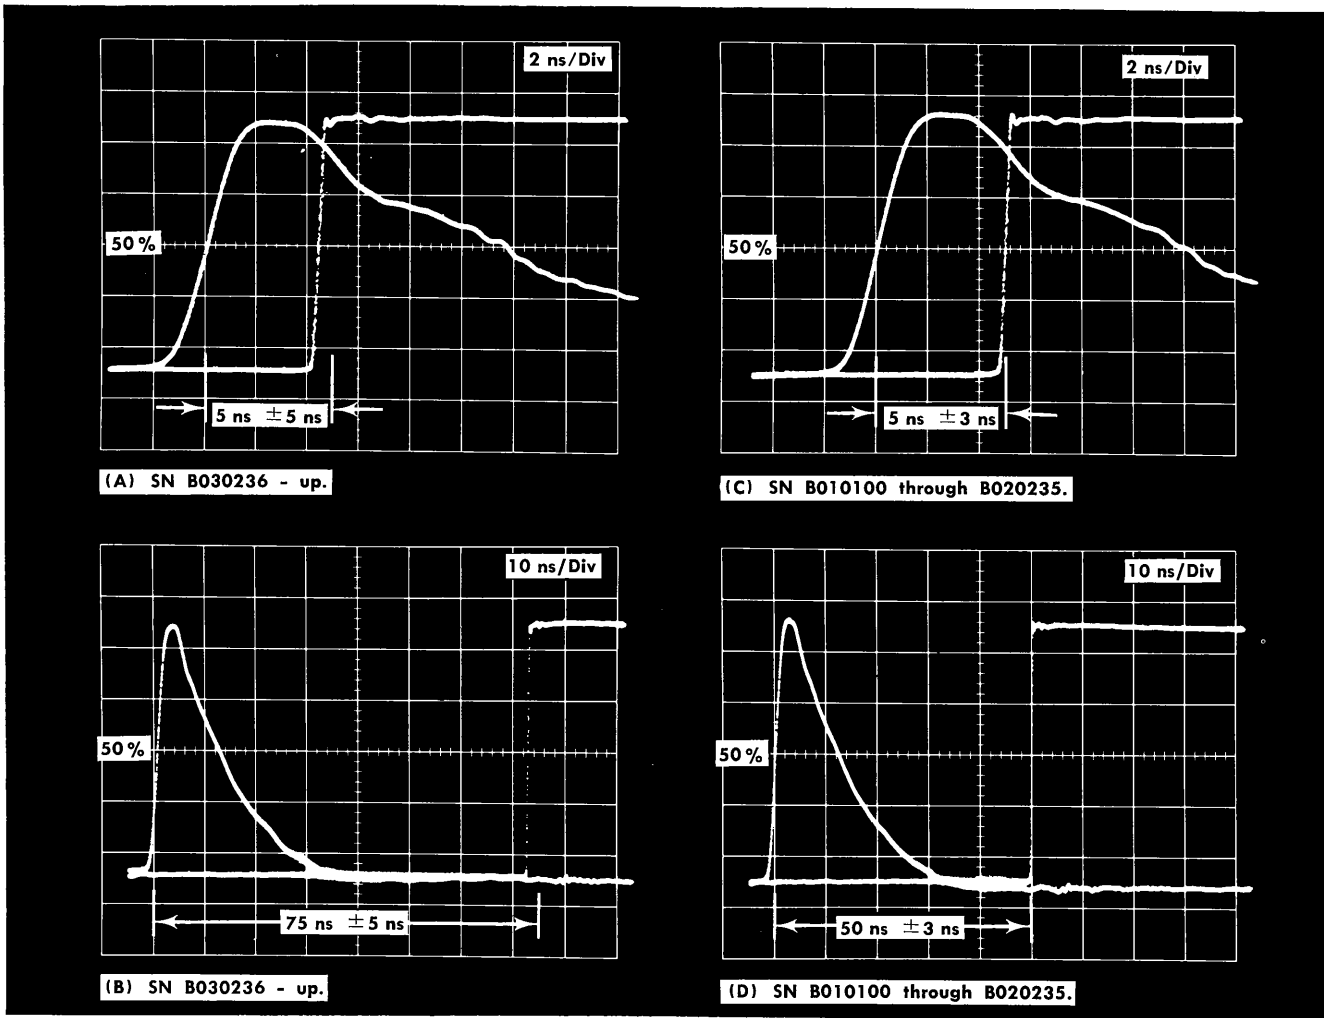

Fig. 6-27. Display when checking Lead Time tolerances.
16. Adjust Bias Balance, R123 ①
- c. Reconnect the signal and adjust the Bias Balance control R123 on the Pulse Generator board (see Fig. 6-27 for
d. Adjust Snapoff Current R174 (see Fig. 6-27 for location) to obtain 5 ns between the Trigger and the Pulse display. Readjust the TD BIAS control as necessary to obtain a stable PULSE OUTPUT display.